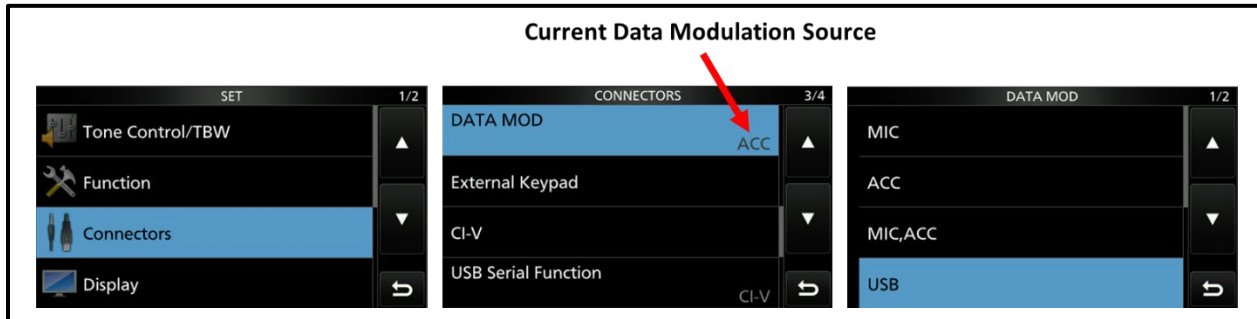

Figure 4. IC-7300 Configuration Menus
- c. When the **SET** menu is displayed, use the up and down arrow keys to find and select the **Connectors** menu. Refer to Figure 4 for menu displays.